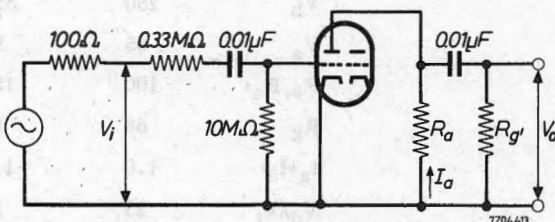

Fig. 3
A.F. amplifier - circuit fig.3.
A.F. amplifier - circuit fig.3. (continued)